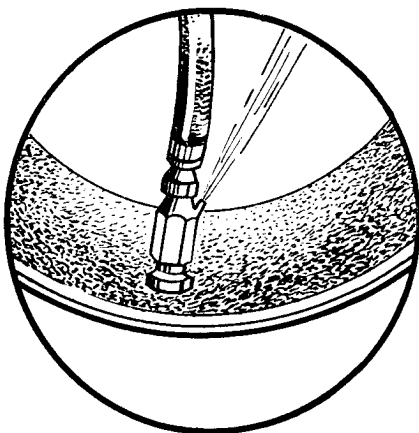

Fig. 60
3. Remove the residue of water — screw on the water valve (Fig. 60) and inflate the tyre with air until water ceases to flow out from the pipe.